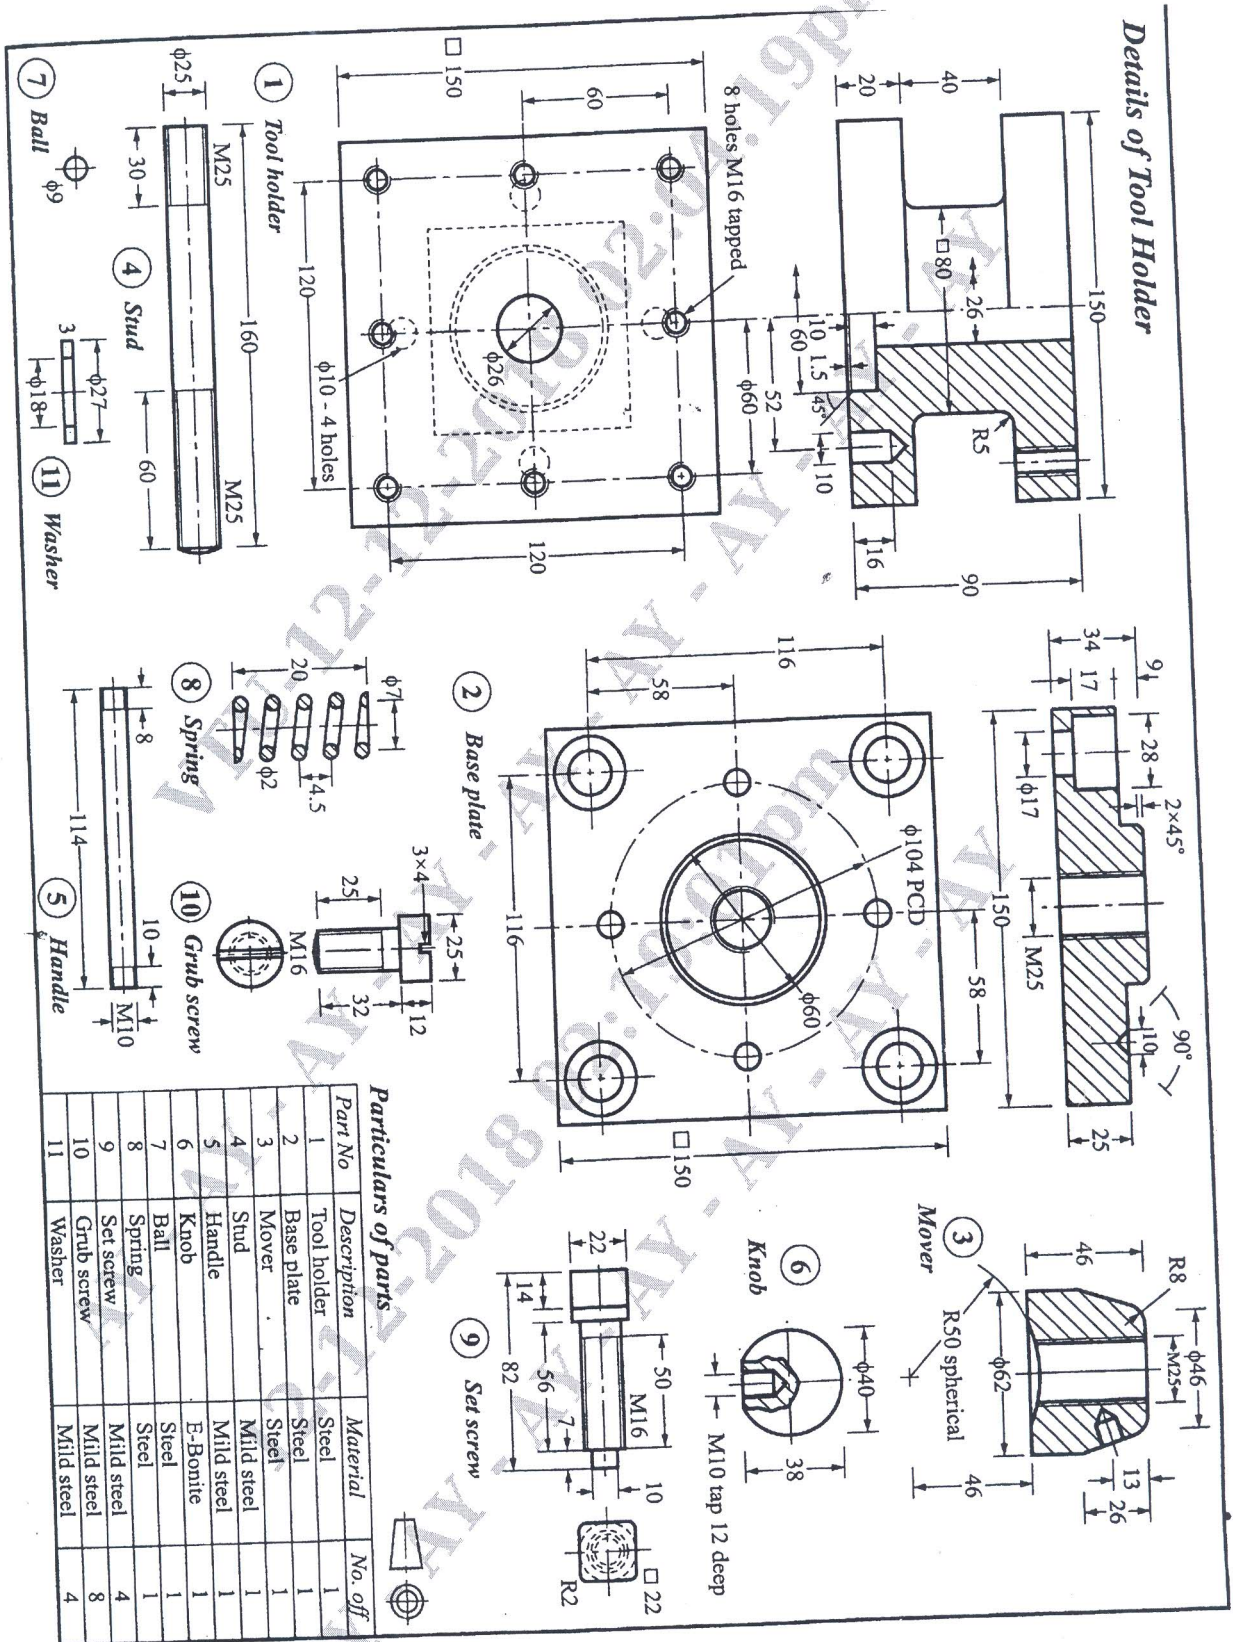

Figure 1 : SQUARE TOOL POST
- Q.No.5** Figure 1 shows the details of a "SQUARE TOOL POST". Assemble the Parts and show the following views.